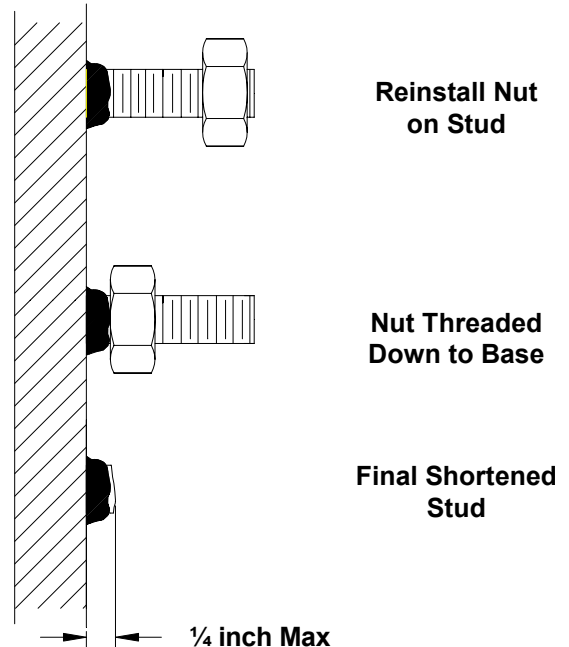

Figure 2 Stud Removal
- 6) The studs, which held the old inspection cover in place, will need to be removed (shortened). The best way to shorten these studs is to place the nuts (removed in Step 5) onto the exposed stud (see Figure 2). Tighten the nut down onto to the stud with a wrench or socket until it threads flush with the weld base of the stud. Continue to tighten the nut until the stud breaks. Providing the remaining stud is not higher than $\frac{1}{4}$ inch, no additional conditioning of the stud base is necessary. If the remaining base of the stud is still higher than a $\frac{1}{4}$ inch, file down its height until the top is no more than a $\frac{1}{4}$ inch above the plate.